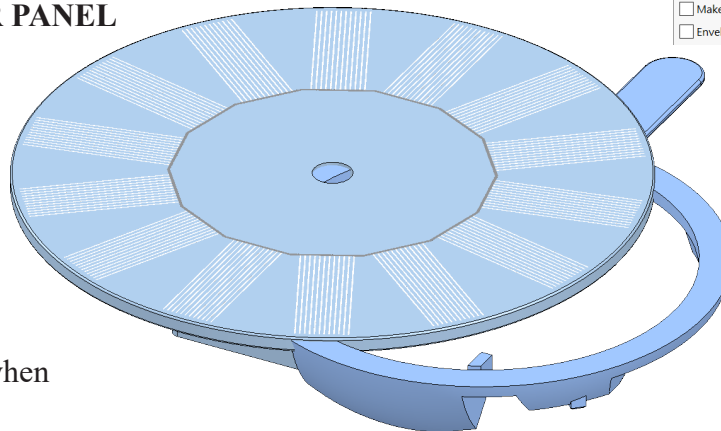

Fig. 2
Step 6. Click approximately where Solar Panel is positioned in **Fig. 2**.